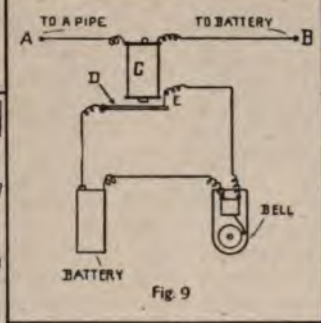

Fig. 9
L. J. Voorhees, Sayre, Pa., says it is uneconomical to divide the current in this way, and recommends putting in a switch as shown in Fig. 9. In this plan when there is a short circuit in the line A, B or main circuit for lights, it magnetizes the core of coil C, causing the steel arm to come in contact with point interfering with way.
A better and more substantial way is to make a screw with a permanent swivel plate, as follows: Have the bolt forged for the purpose. (See Figs. 9 and 10.) Have the square head set about an inch below the point end, then turn down the point end (g) about half its diameter for a distance $\frac{1}{8}$ in. longer than the thickness of the swivel plate h. Plate h should be $\frac{1}{4}$ to $\frac{1}{2}$ in. thick and about 3 to 4 in. square with a hole bored in the center of the same size as pin g and slightly countersunk on one side to make swivel, taking the place of block B, Fig. 3, thus making a cheap and handy jack.—Contributed by C. N. Leonard, 1319 Barth avenue, Indianapolis, Ind.